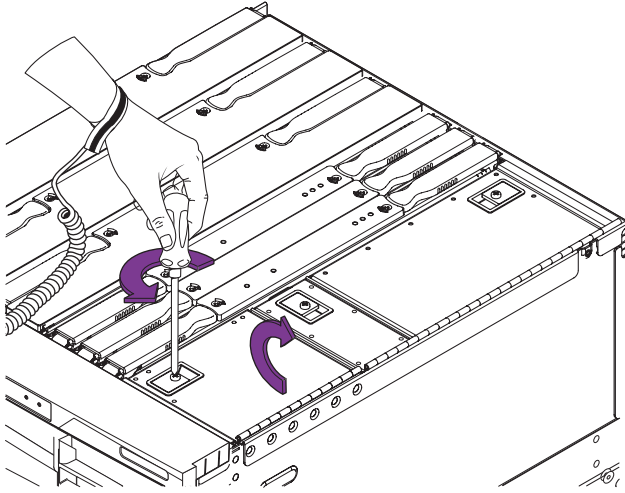

FIGURE 8-2 Opening the Media Bay Cover—System Top View
8. At the top of the system, open the media bay cover (FIGURE 8-2).